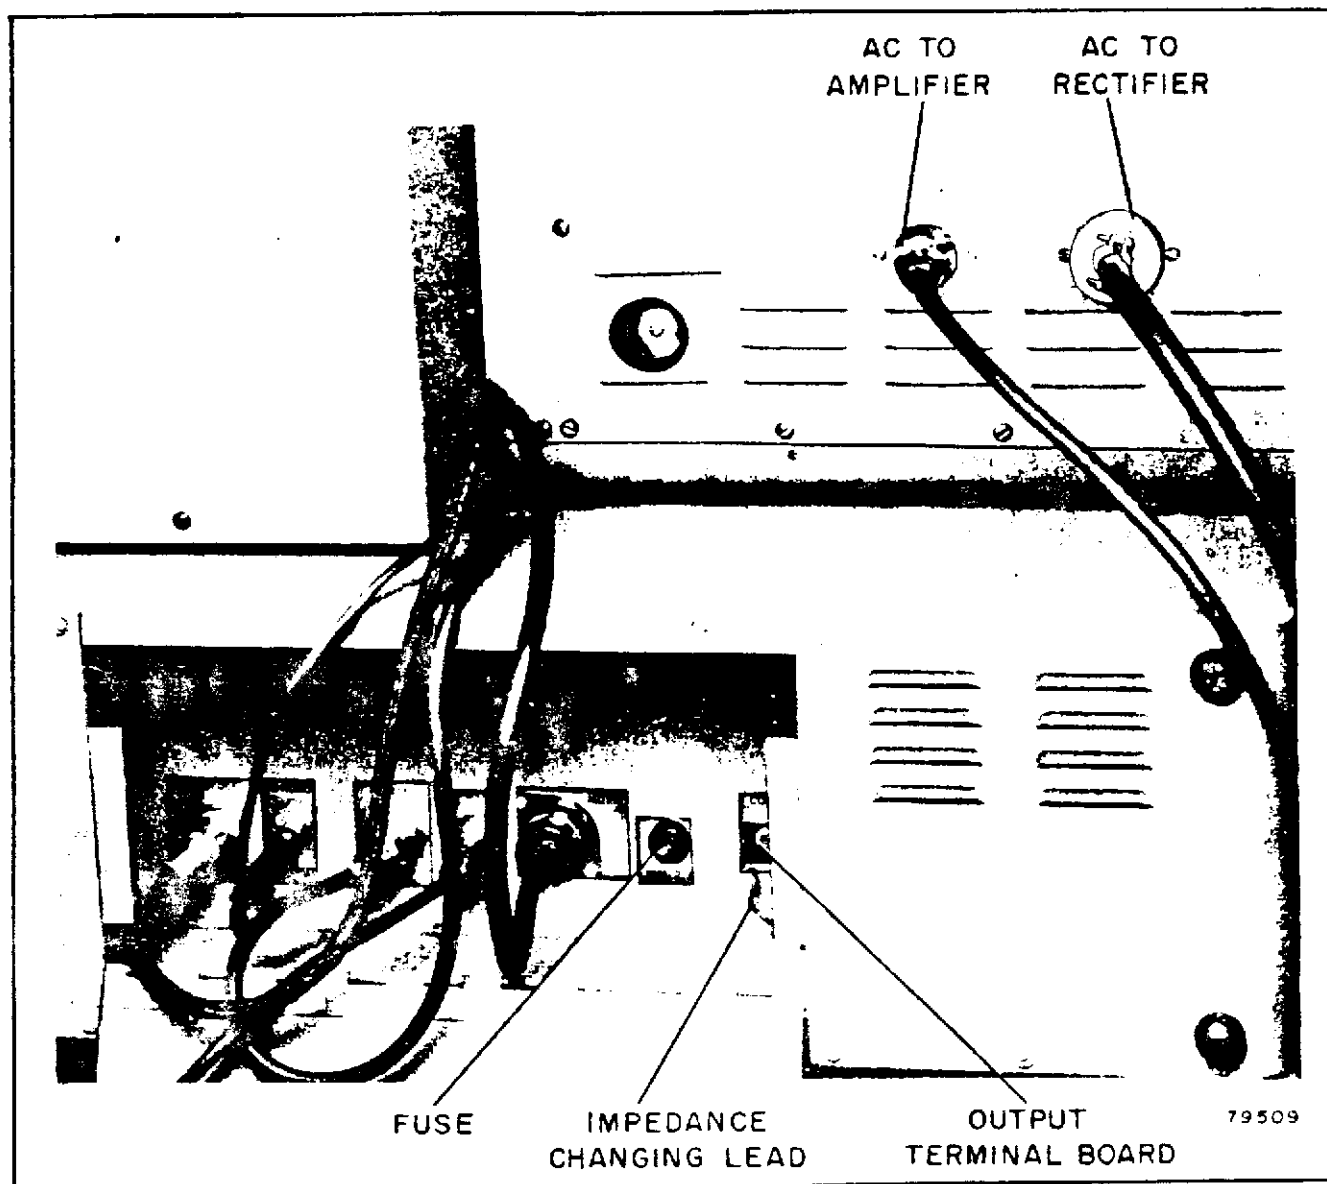
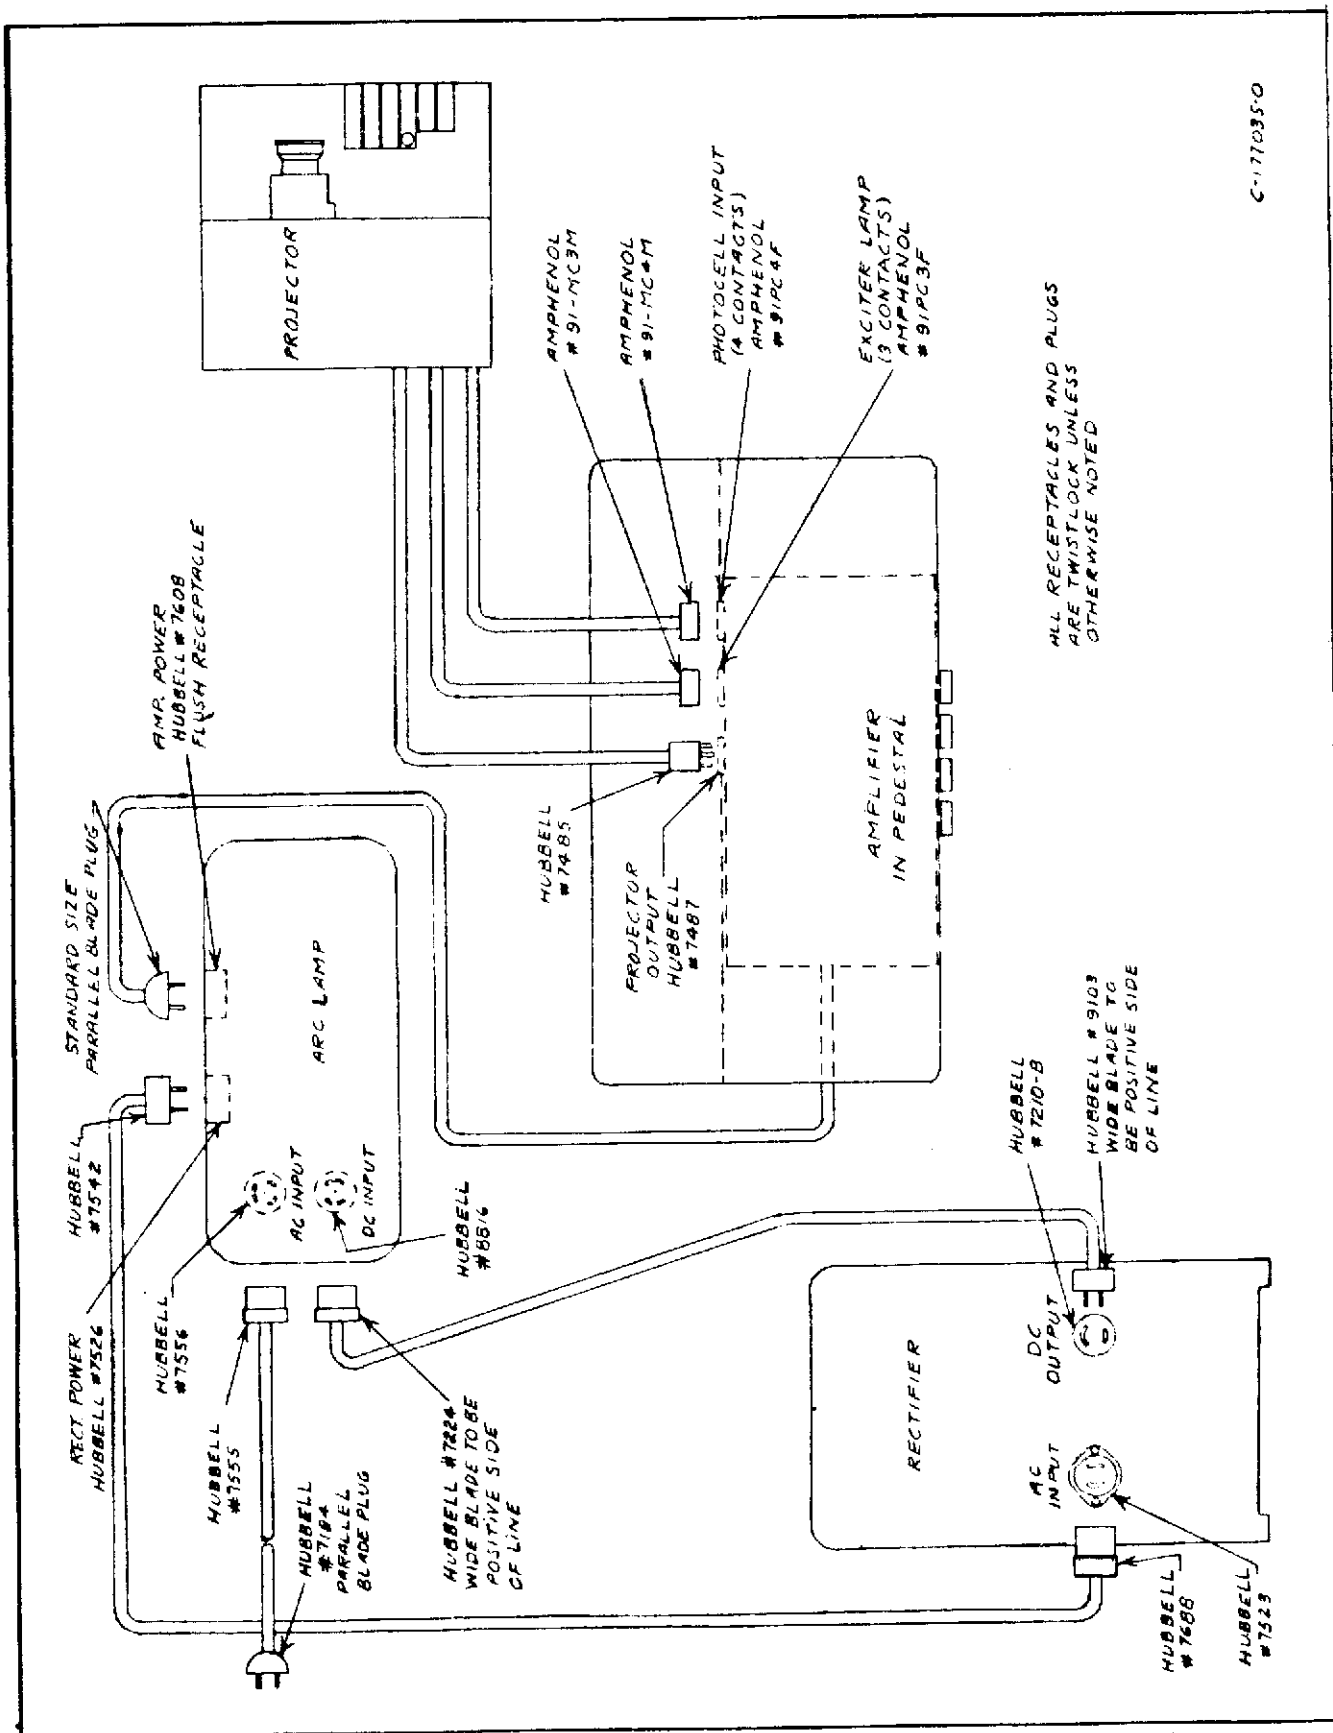

Figure 3 — View of Nonoperating Side of Amplifier with Cables Connected
Figure 4 — Interconnection Diagram
2. Unfold the elevating crank on the front of the amplifier case and turn it clockwise until the elevating pins protrude approximately one-half ( $\frac{1}{2}$ ) inch above the top surface of the housing. This will facilitate locating the projector mechanism in proper engagement with the pins. Remove the front cover from the projector mechanism and set it in place so that the brackets on its lower front surface engage the elevating pins. Open the door in the amplifier carrying case, on the nonoperating side or on the side opposite the amplifier control panel, by turning the two locks with a coin; connect the plugs of the three connection cables from the projector mechanism to their mating receptacles within this compartment, see figure 3. The plugs and receptacles are arranged so that they cannot be incorrectly connected. The screw-type holding rings on the two shielded cable connectors should be screwed on with reasonable firmness to insure good electrical connection of the cable shields.
4. Withdraw the connecting cables from the pedestal-amplifier's rear storage compartment. They have been provided with suitable plugs to prevent incorrect connections. The longest cable having a twistlock female plug in one end and a parallel blade plug on the other is the main 117 volts ac power supply cable to the equipment. This should be connected by #12 wire or larger extension cable (or permanently installed wiring) to a circuit of the building wiring capable of supplying at least 15 amperes at 117 volts, 60 cycle, or 50 cycle. Consult the nameplate on the projector to determine the correct frequency. Fuses or breakers to protect the circuit must be of at least 15 ampere rating, slo-blow or timelag type. Refer to figures 4 and 5.
There are two sockets on the under side of the arc lamp at the rear end. Insert the female plug of the 117 volts ac power cable in its mating socket at the left (viewed from the rear end of the arc lamp). The large diameter cable having twist-lock plugs at each end is used to carry direct current from the rectifier to the arc lamp. Connect its female plug to the right hand socket underneath the arc lamp, and connect the male plug at the opposite end of the cable to its corresponding socket on the rectifier. The small diameter cable with plugs at each end is used to carry alternating current from the arc lamp to the rectifier. See figure 3. Connect the male plug on this cable to the socket on the nonoperating side of the arc lamp, and connect the female plug to its mating socket on the rectifier. To protect the operator, the alternating current for the rectifier is passed through door-operated mercury switches within the arc lamp so that the current is interrupted and the rectifier ceases to supply direct current as soon as the arc lamp door is opened. Refer to figure 4. Insert the parallel blade plug, which is attached to the permanently connected short cable coming from the amplifier, in the mating socket on the nonoperating side of the arc lamp.
5. The door on the nonoperating side of the pedestal-amplifier case provides access to the amplifier's output jack and terminal board, see figure 3. The sound output jack and the impedance changing screw terminals are in parallel to accommodate either permanent or portable speaker connections.
One end of each of the amplifier's output transformer secondaries (low and high impedance) is grounded and is also connected to the jack frame as well as to the "COM" terminal of the impedance changing terminal board, see figure 16. Three taps on the lower impedance secondary are connected to the next three terminals (left to right) on the impedance changing terminal board, providing output impedances of 4, 8 and 15 ohms. The higher impedance secondary provides a 500 ohm output circuit suitable for connection to certain types of stage loudspeaker equipment, and it is tapped at 164 ohms to provide a nominal "70 volt line" for feeding modern distributed speaker systems. The flexible lead associated with the impedance changing terminal board is used to select the desired output circuit, see figure 3.